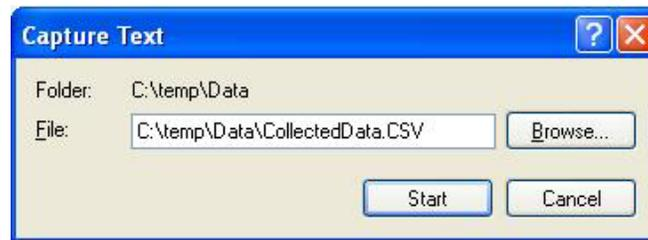

Figure 28 - Specify Data Capture File
- 6) Enter the path and name of the file to be created, either directly or with the Browse button, then click on the Start button (see Figure 28).